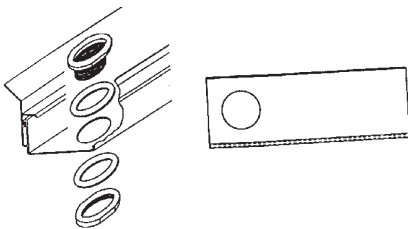

Fig. 8
- c. Install the downspout (2"/5.08 cm tank fitting) in the gutter section with the downspout hole found in the basic package. This section is to be installed near the midpoint of the system over the sump. Insure the gaskets are seated on both sides of the gutter with the fittings as shown in Fig. 8.